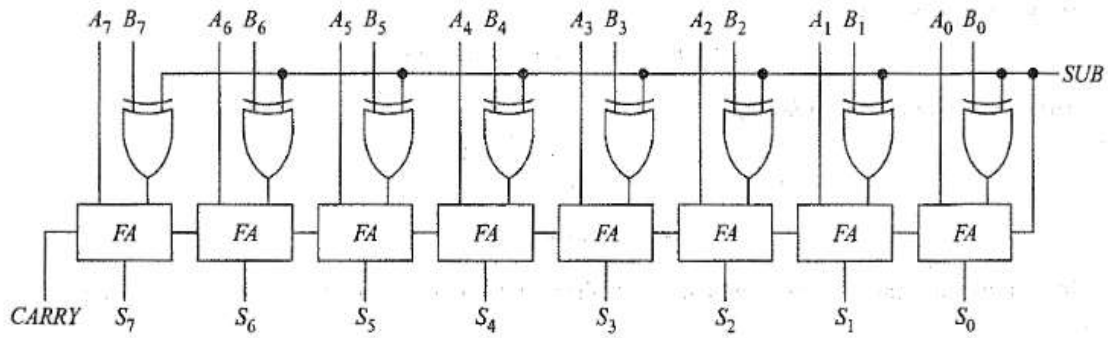

Fig. 6.6 Binary adder-subtractor
- We can connect full-adders as shown in Fig. 6.6 to add or subtract binary numbers. The circuit is laid out from right to left, similar to the way we add binary numbers. Therefore, the least-significant column is on the right, and the most-significant column is on the left.
- Addition such as these (Fig. 6.6) is called *serial addition* or *ripple carry addition*. It also reveals from the adder equation (given in Section 6.8) result of every stage depends on the availability of carry from previous stage.